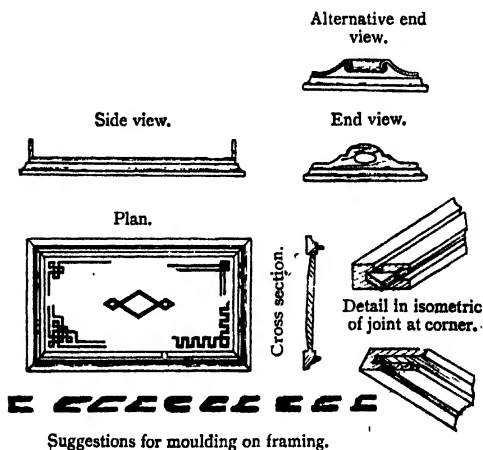

FIG. 116.—INLAID TRAY.
*Drawing.*—The illustrations in Fig. 116 are given as suggestions for the production of a Tray.